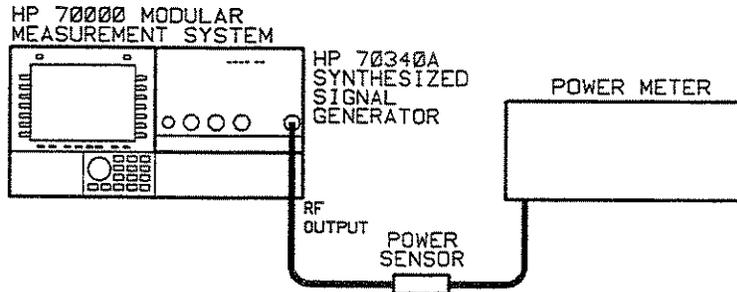

Figure 1-3. Maximum Power Test Setup
2. Set up the equipment as shown in Figure 1-3.